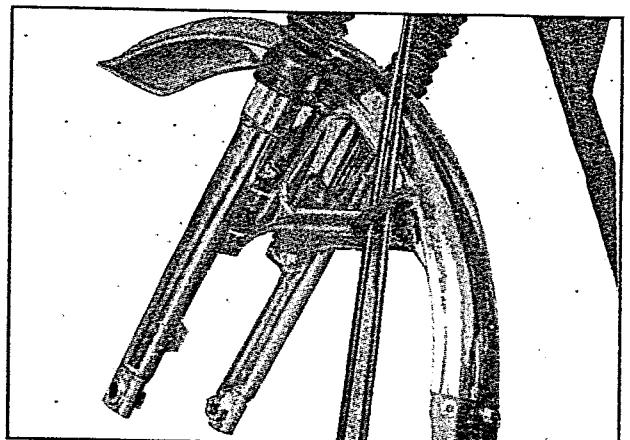

Fig 6.2A
- Draw out the axle shaft (fig 6.2A)